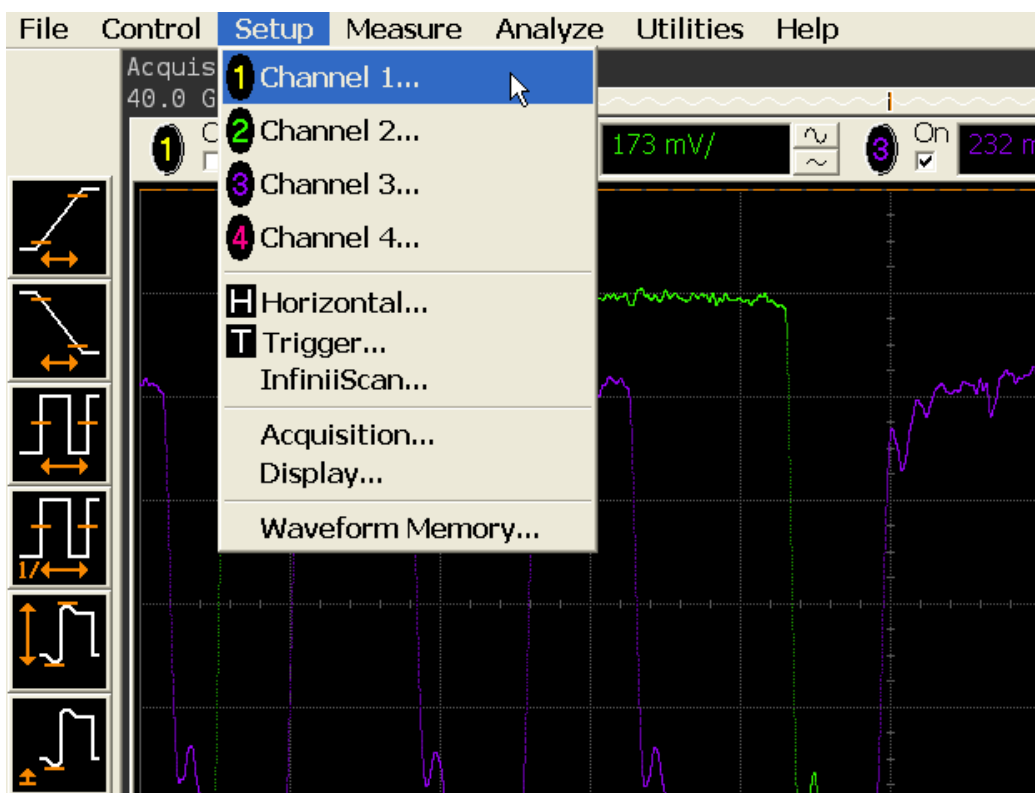

Figure 84 Channel Setup Window.
- 1 Referring to Figure 84 below, perform the following steps: